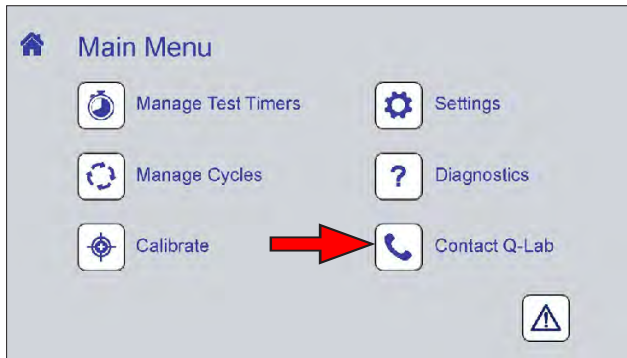

Figure 11.9a: Touch the Contact icon on the Main Menu screen to display Q-Lab contact information.
- Touch the Contact Q-Lab icon on the Menu Screen (Figure 11.9a).